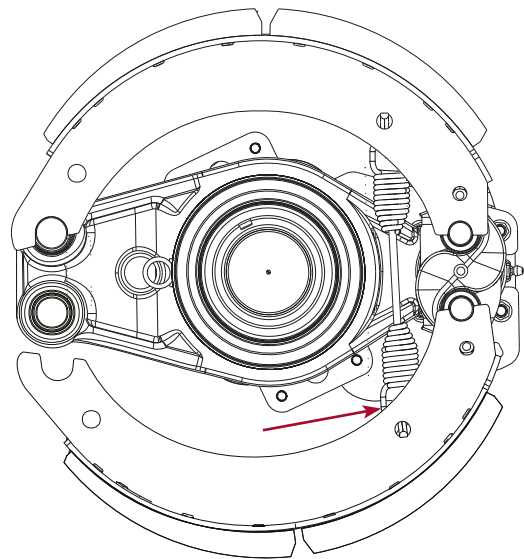

Figure 52: Return Spring Installed onto Lower Brake Shoe
6. With the lower brake shoe roller on the S-cam, swing the lower brake shoe into position over the anchor pins. Refer Figure 52.